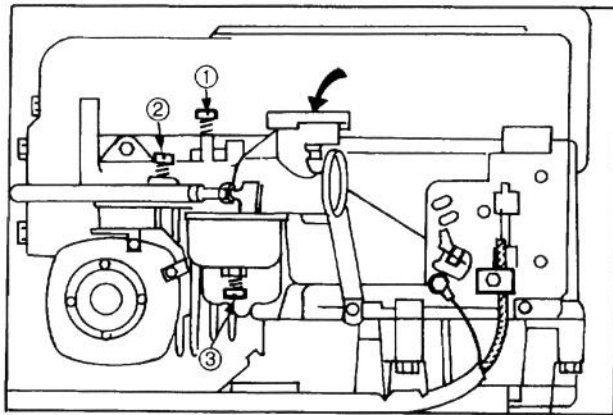

Figure 21
1. Needle Valve (Fig. 21) — Close valve by gently rotating it clockwise.
2. Rotate—open—the needle valve 2 turns counterclockwise (Fig. 21).
4. Rotate needle valve (Fig. 21) clockwise, 1/8 turn at a time, until engine starts to lose speed. Let engine react to each 1/8 turn setting.
5. Rotate needle valve (Fig. 21) counterclockwise — out — 1/8 turn at a time, until engine first runs rough. Let engine react to each 1/8 turn setting.
6. Rotate needle valve (Fig. 21) clockwise—in—very slowly until engine starts to run smoothly. This setting, under no load, may be slightly rich; however, the slightly rich setting will assure proper operation when engine is under load.